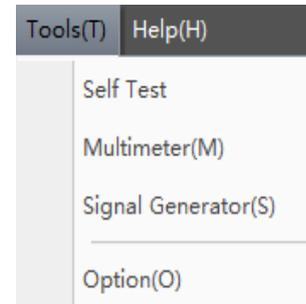

Figure 3.11 Tools Menu
3.2.8 Tools (T)
The drop-down menu of "Tools (T)" is as shown in Figure 3.11.
- Multimeter (M): open a multimeter. Please refer to Section 3.7 for details.
- Signal generator (S): open a signal generator. Please refer to Section 3.8 for details.
- Option (O): set some system parameters of the software, including sequence verdict setup, USB SoundCard setup, etc.